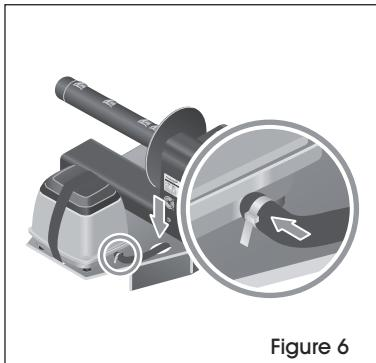

Figure 6
8. Attach rubber air hose to both the valve on the air pump and the valve under the fill tube. Secure with zip ties to hold in place. (See Figures 6 and 7)